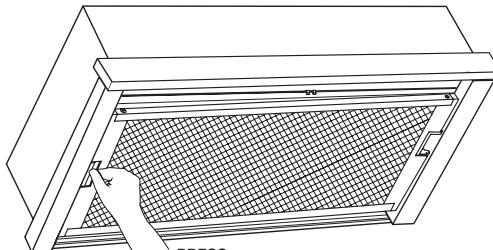

Fig 1.
2. Push in clip on either side to release filter. Fig 1.